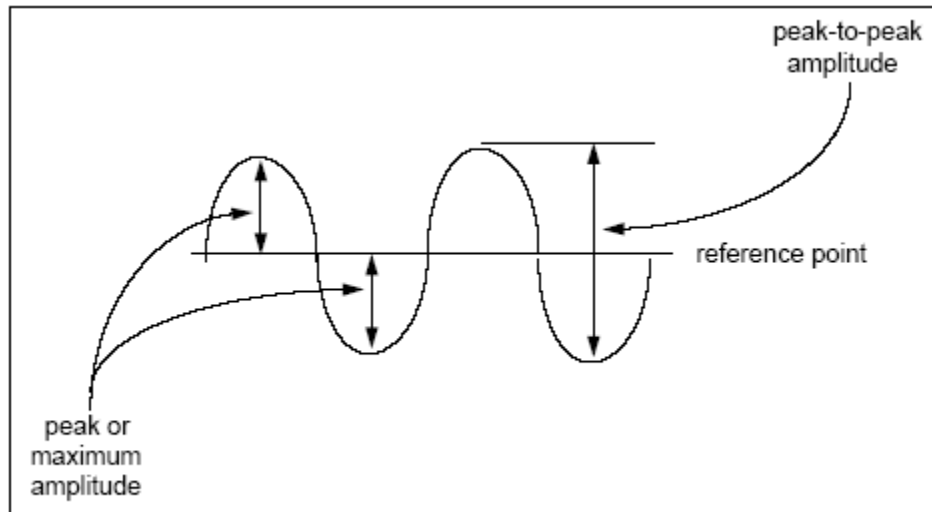

Figure 3: Measuring Amplitude.
- The amplitude can be measured from the reference line to the peak (V_p) or from peak-to-peak (V_{pp}). See Figure 3 below.